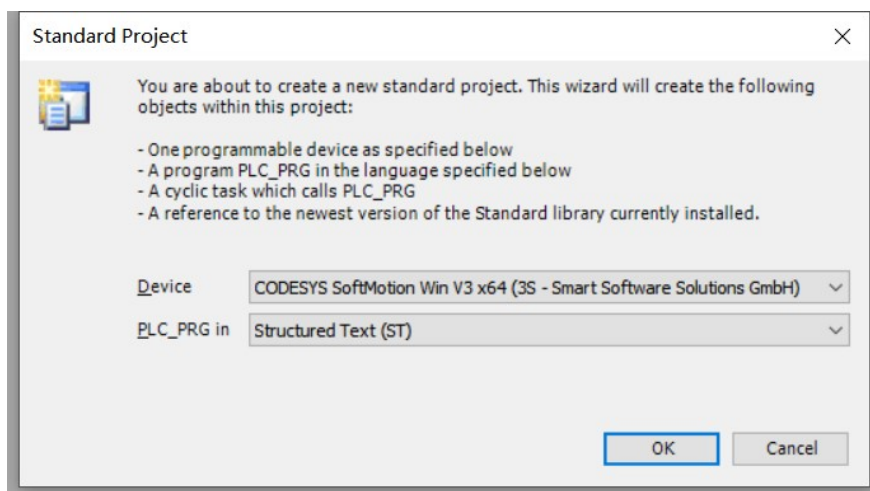

Figure 5-1-11 Select device and programming language
In the standard project window, select "CODESYS SoftMotionWinV3", PLC\_PRGSelect "Structured Text (ST)", as shown in Figure 5-1-11 shown.